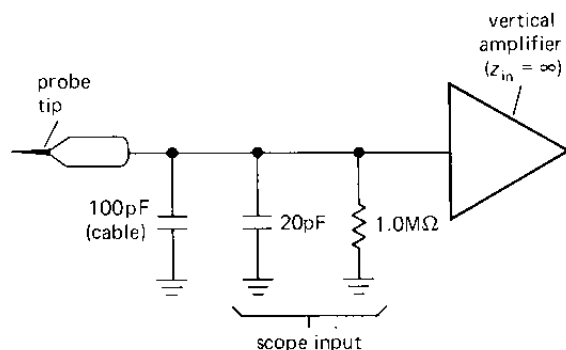

Figure 1.106
(8) Design an oscilloscope " $\times 10$ probe" (see Appendix A) to use with a scope whose input impedance is $1\text{M}\Omega$ in parallel with 20pF . Assume that the probe cable adds an additional 100pF and that the probe components are placed at the tip end (rather than at the scope end) of the cable (Fig. 1.106). The resultant network should have 20dB ($\times 10$) attenuation at all frequencies, including dc. The reason for using a $\times 10$ probe is to increase the load impedance seen by the circuit under test, which reduces loading effects. What input impedance (R in parallel with C) does your $\times 10$ probe present to the circuit under test, when used with the scope?